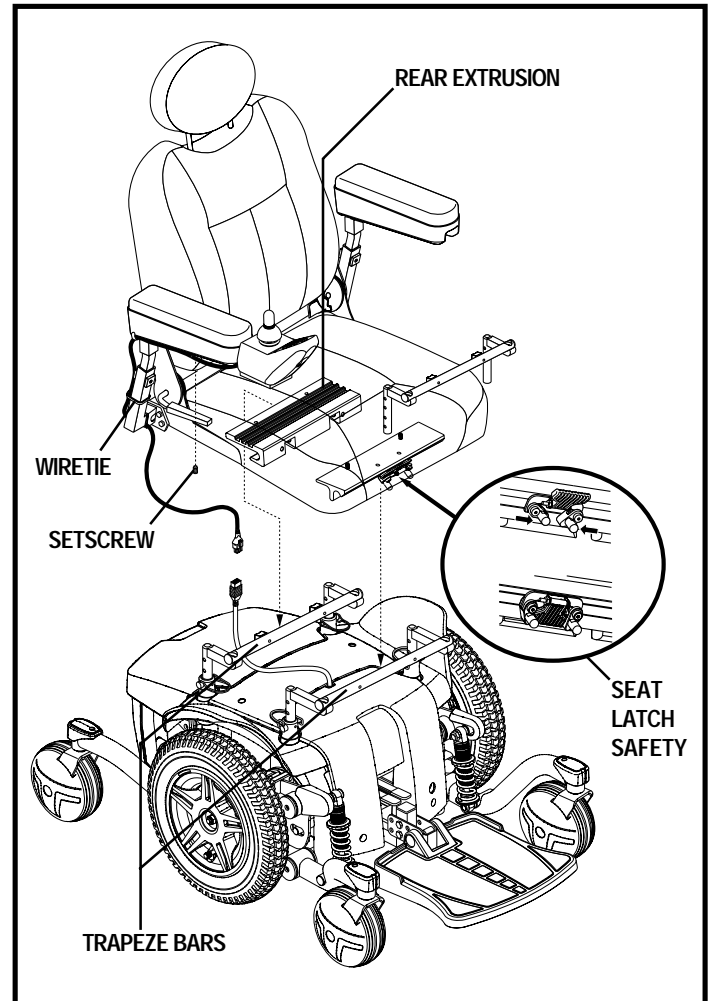

Figure 11. Universal Mounting System
It may be necessary to install the seat either prior to initial operation or after transporting your power chair. Most seats are attached to the power base with the Universal Mounting System (UMS). The UMS consists of universal parts that may be attached to any medium-back or high-back seat, regardless of seat width or seat depth. The two main components are aluminum extrusions mounted to the seat base. These extrusions attach to a pair of trapeze bars that are mounted to the power base. See figure 11.
1. Tilt the seat back and slide the rear extrusion onto the rear trapeze bar. See figure 11.
4. Install the controller into one of the armrests. Tighten the setscrew. See figure 11.
7. Secure the controller cable to the armrest receiver with one or more wire ties. See figure 11.